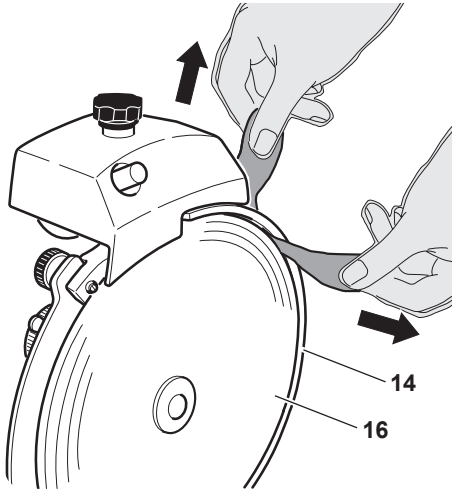

Figure 15-1
7. Carefully insert the cloth between the knife (16) and knife ring guard (14). While holding the cloth between knife(16) and knife ring guard (14), work it along the inside surface of ring guard (14). Repeat this procedure as necessary (Figure 15-1).